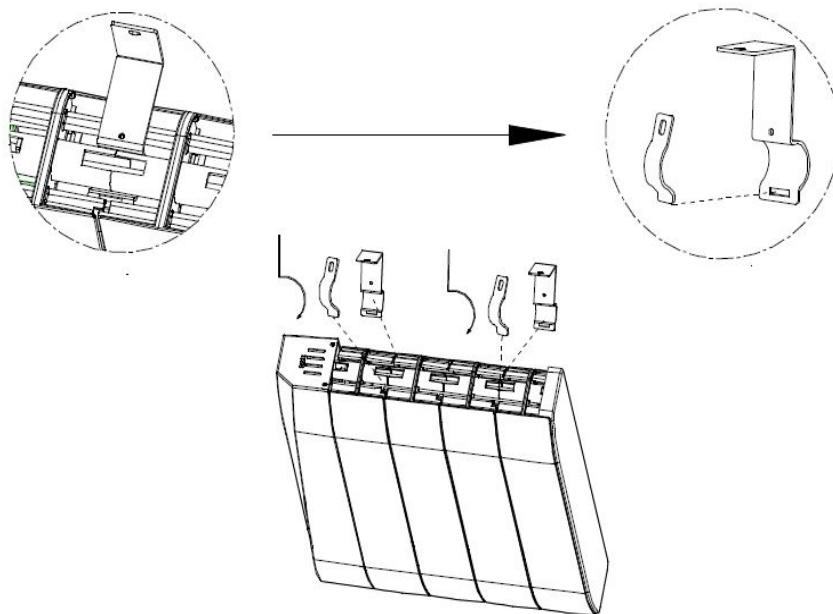

Figure 4: Installing curved plate into bracket slot
- Insert the curved plate into the bracket slot (**Figure 4**)